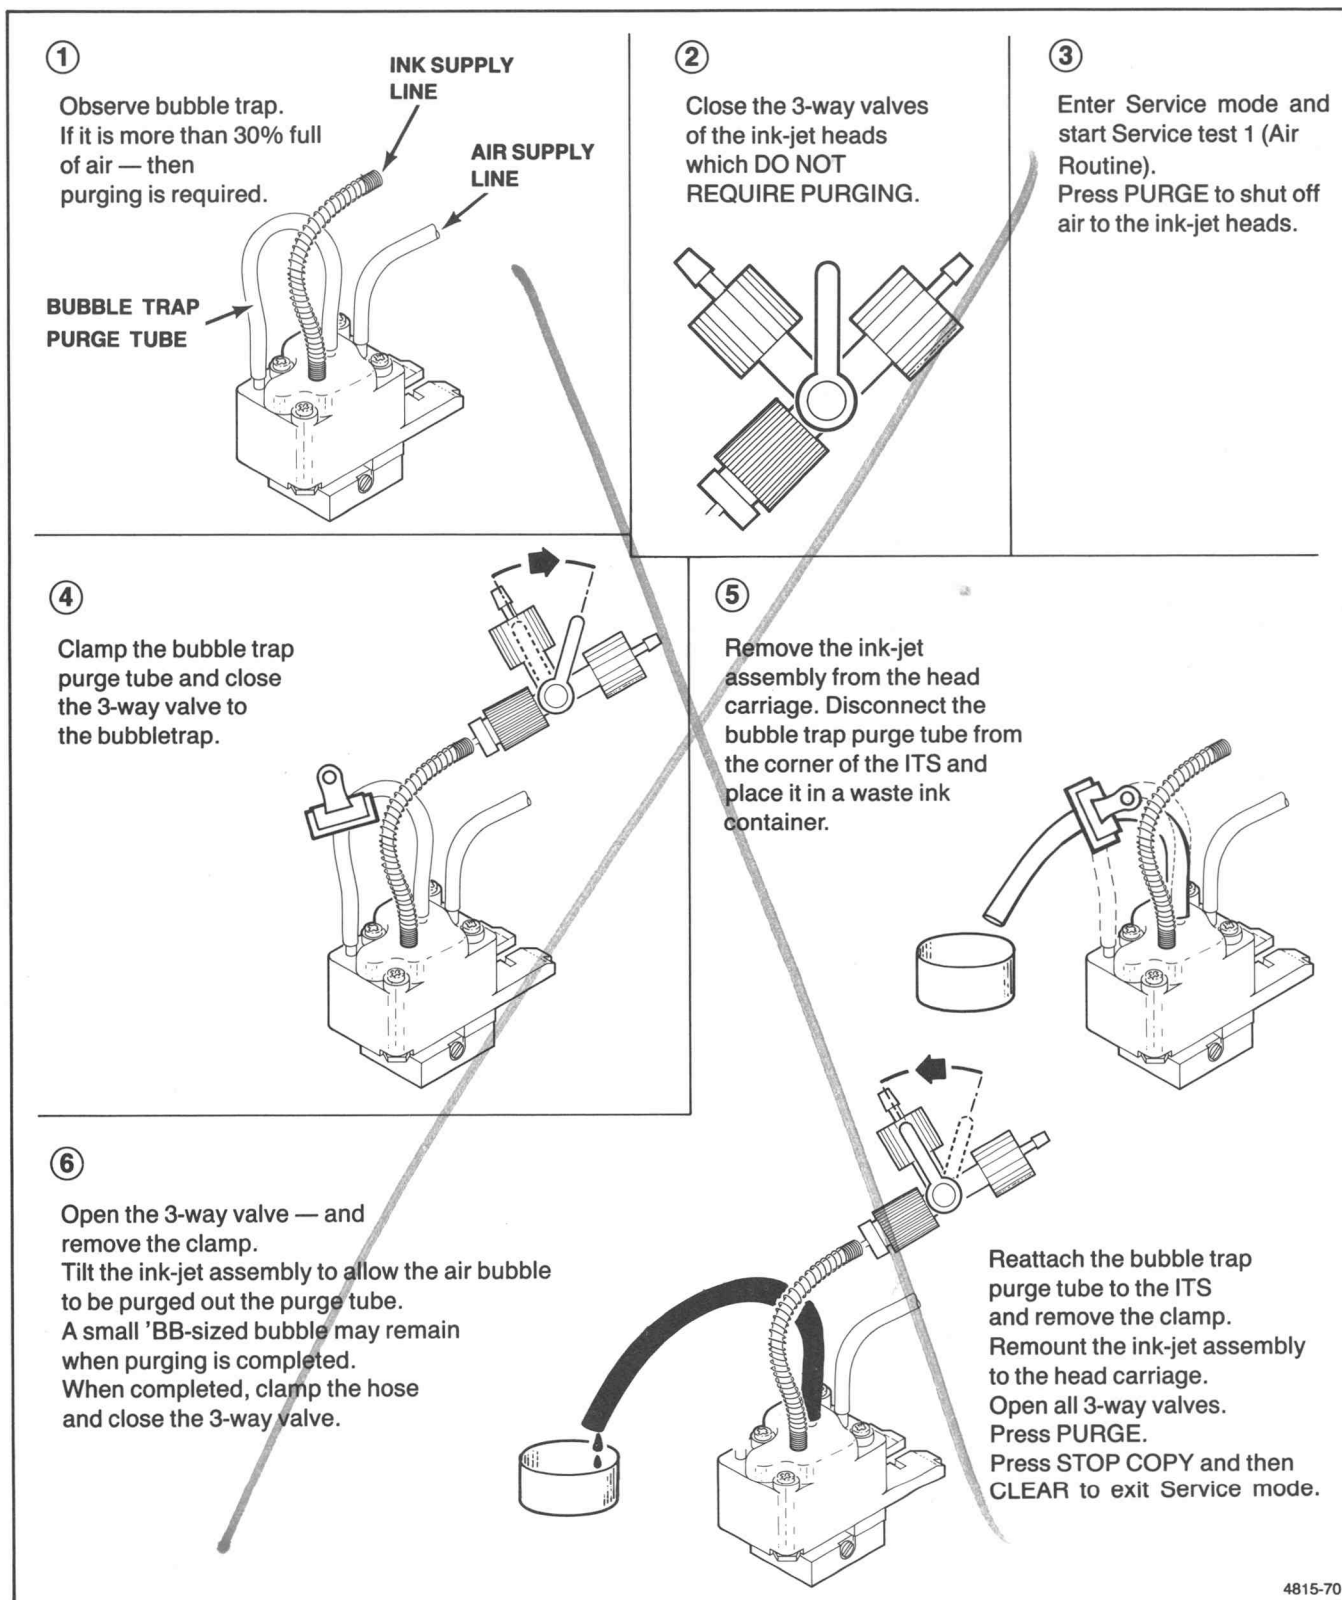

Figure 4-6. Purging the ITS Bubble Trap.
3. Connect a 12 inch piece of 3/16" inside diameter tubing to the purge ports of each 3-way valve — see Figure 4-6. Place the free end of the tubing in a waste container to catch the "old" ink. Depending on your intentions, you may only need to connect the tubing to one, two, or three of the 3-way valve purge ports.
2. Remove the head carriage cover and observe each ink-jet head assembly's bubble trap. If the bubble trap chamber is more than 30% full of air, then it requires purging — see Figure 4-6.
8. Clamp the purge tube of the bubble trap to be purged. Close the 3-way valve to the bubble trap — refer to Figure 4-6.
10. Disconnect the end of the bubble trap purge tube connected to the corner "nipple" of the ITS — see Figure 4-6. Place the free end of the tube in a waste container to catch the ink that forces the air bubble out of the bubble trap.